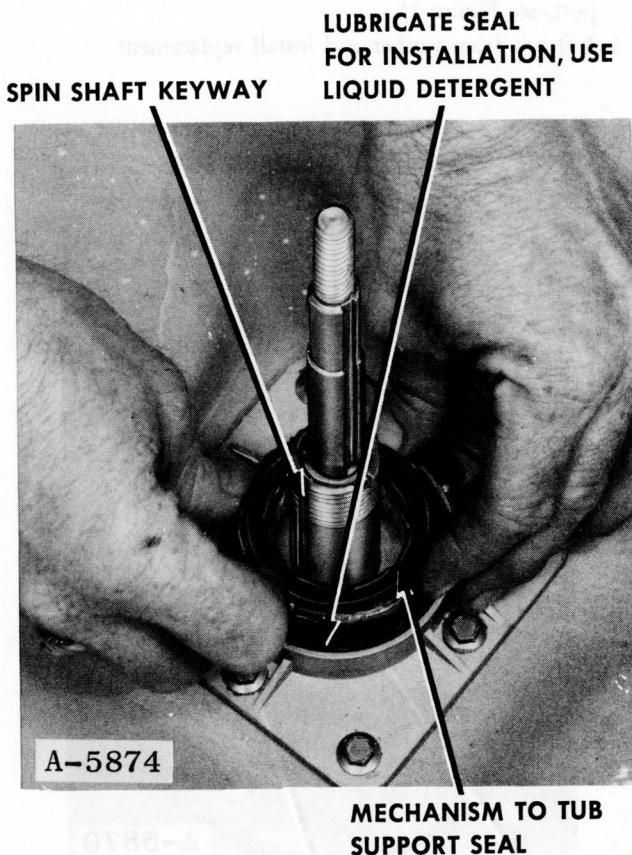

Figure 78
1. Inspect the seal assembly. If seal appears to be worn or damaged, replace it. See Figure 78. Install new seal into the seal retainer as follows:
- b. When inserting into seal retainer, apply downward pressure as shown in Figure 78.